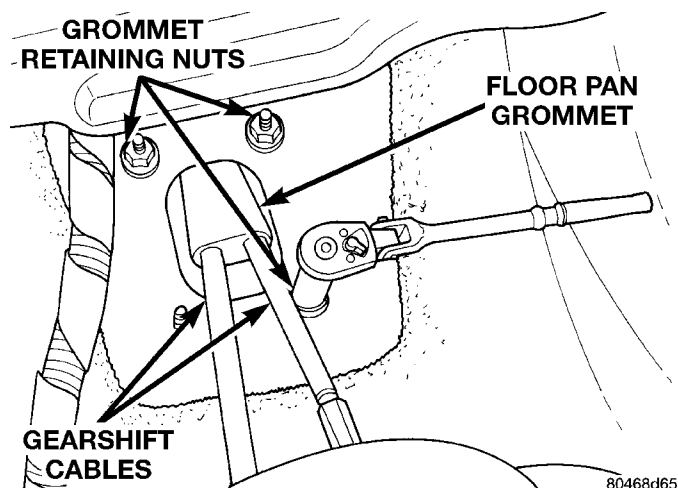

Fig. 12 Grommet Retaining Nuts (Interior)
- (6) Pull cables up out of transaxle bracket.
- (7) Remove console from vehicle. Refer to Group 23, Body.
- (8) Remove floor pan grommet retaining nuts (Fig. 12).